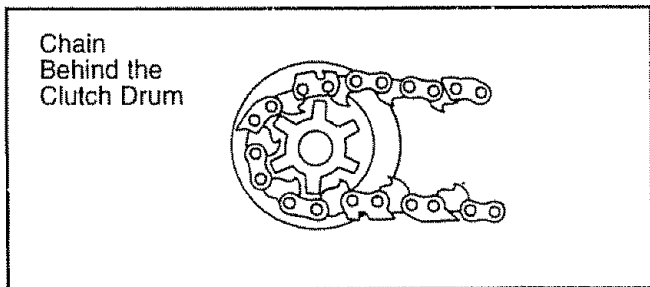

Figure 10
- Place chain over and behind the clutch drum Fig.10.